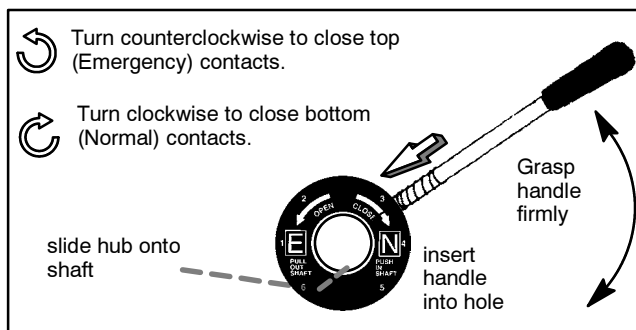

Figure 11-3 Maintenance Handle On Operator Shaft
3. To manually operate the deenergized transfer switch to the opposite position, grasp the maintenance handle firmly and turn either clockwise or counterclockwise. See Figure 11-3. Then remove the handle and hub.
2. Open the contacts that will be replaced (if not already open) by using the detachable maintenance handle. See Figure 11-3.
2. Use the maintenance handle (if necessary). Open the contacts that will be adjusted (if not already open) by using the detachable maintenance handle. See Figure 11-3.